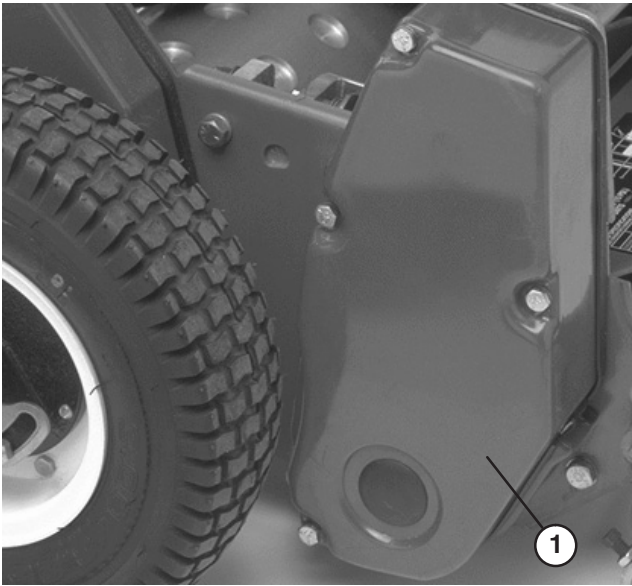

Figure 7
16. Remove the (4) capscrews securing the reel drive cover to the right side plate and remove the cover (Fig. 7).